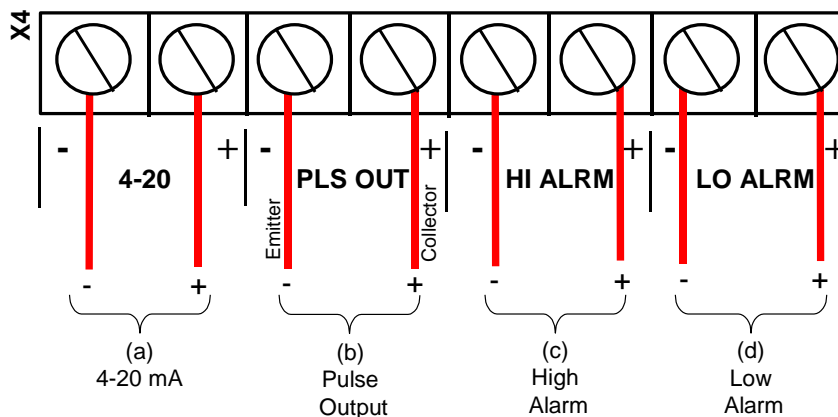
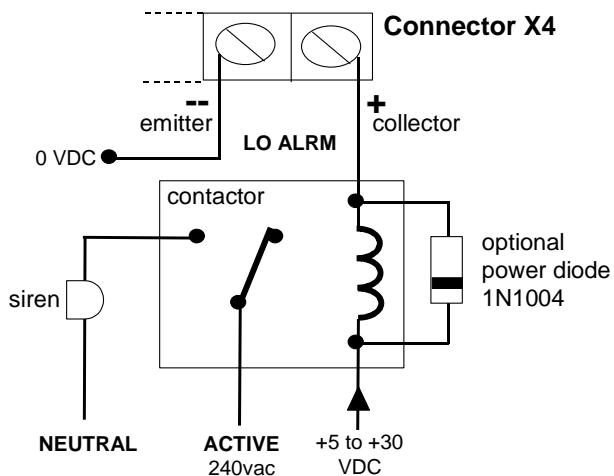

Figure 10. Connection of 4-20mA, Pulse and Hi/Lo Alarm Outputs via Connector X4.
Figure 11. Example alarm output circuit.
- 4-20mA output is connected as shown in Figure 10-a below.
- Pulse Output is connected as shown in Figure 10-b below.
- High Alarm is connected as shown in Figure 10-c below. See Figure 11 below for example output circuit.
- Low Alarm is connected as shown in Figure 10-d below. See Figure 11 below for example output circuit.